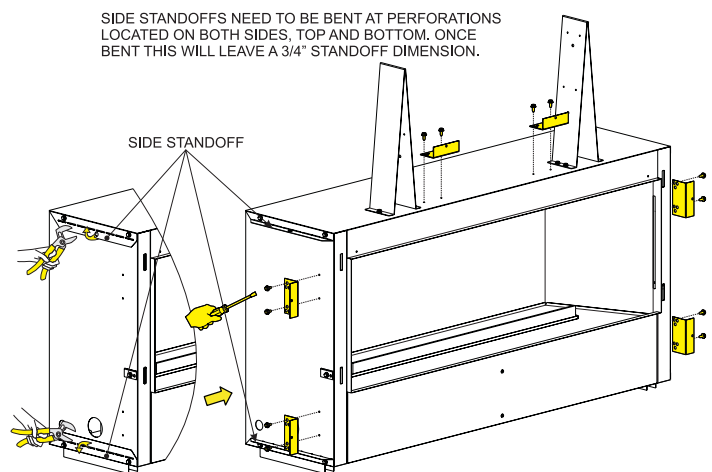

Figure 3
5. Use pliers to bend the side standoffs 90 degrees. See Figure 3.